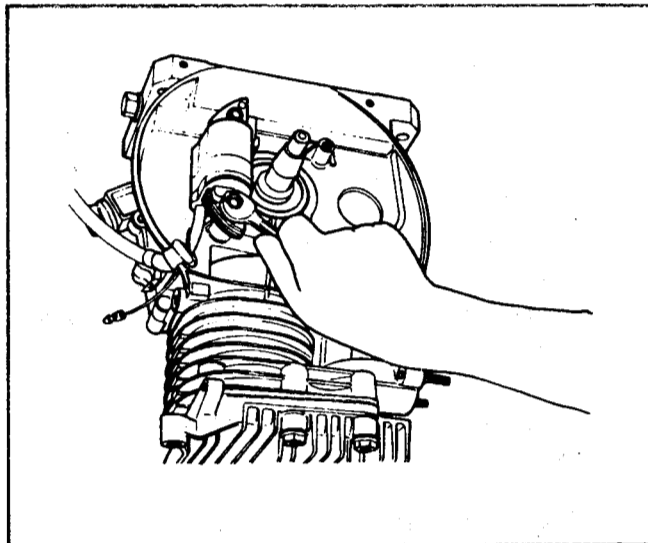

Figure 70
28. If the generator uses an internal ignition coil it will be exposed on removal of the flywheel and should be removed. See Figure 70.